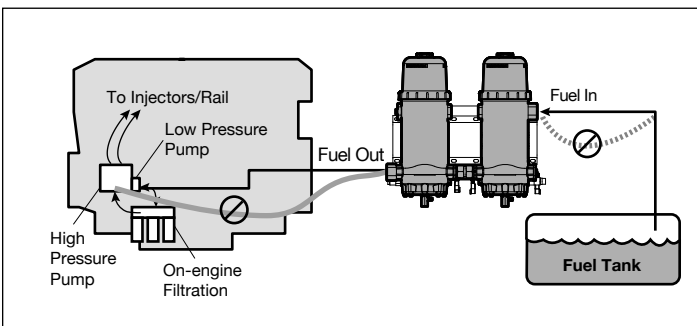

Figure 2 - Industrial Pro Connections
- Route the fuel supply line from the fuel tank to Industrial Pro inlet (see Figure 2). Route a fuel line from the Industrial Pro outlet to the fuel pump inlet.